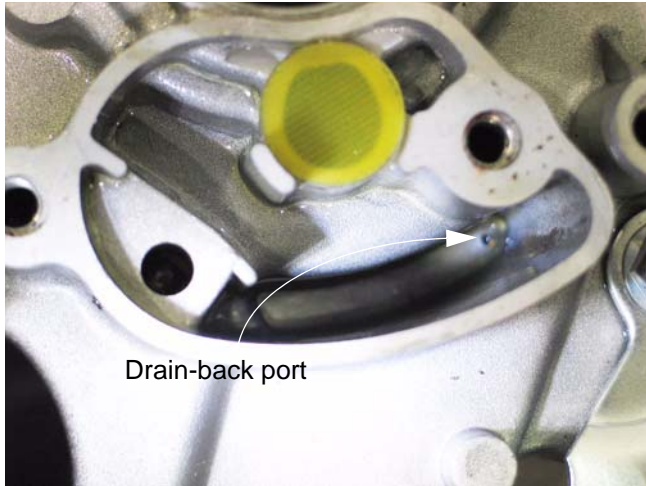

Figure 3.9
11. The screen accumulates droplets of oil, which eventually drip down to the bottom of the chamber. Beneath the screen is a drain-back port, leading to the crankcase. the size of the port is small enough that significant pressure does not flow through it. See Figure 3.9.